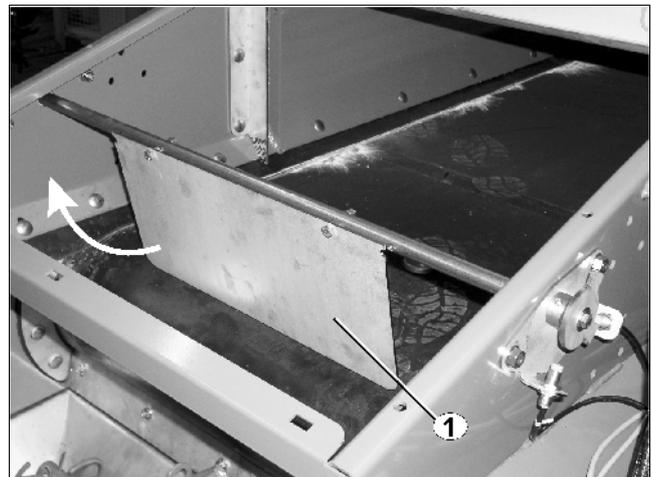

Fig. 44
- Check the control flap (Fig. 44/1) for easy going every day and readjust the setting rings is necessary.